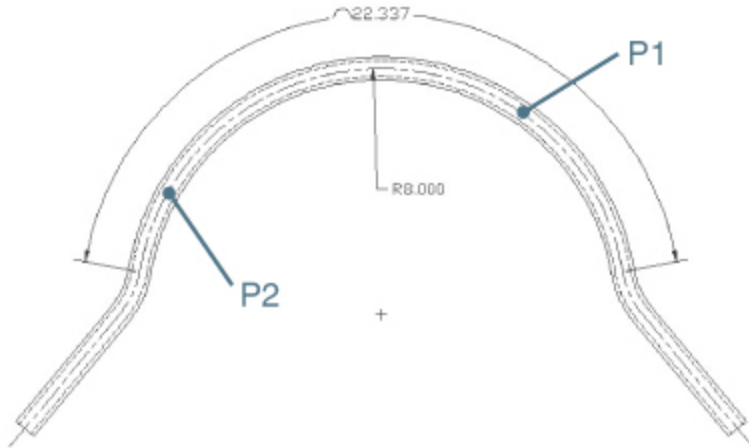

Figure 13-23
- 3** Pick the arc at P1 shown in Figure 13-23. AutoCAD places the defpoints at the center of the arc and at the point you selected on the arc. You are then prompted to *Specify dimension line location or =*.
- 4** Place the dimension line as shown in Figure 13-23.
- 6** Pick the arc at P2 shown in Figure 13-23. You are prompted to *Specify arc length dimension location or =*.
- 7** Place the dimension line as shown in Figure 13-23.
- 8** Save your drawing as **CH13_EXERCISE5**. Your drawing should look like Figure 13-23.